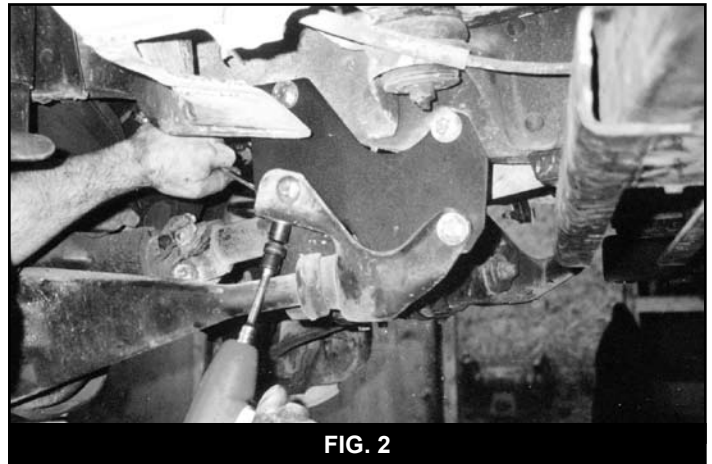

FIG. 2
6. Install BDS radius arm drop brackets. It may be necessary to remove the bracket around the fuel system in order to gain space for access to the bolt holes. Install the BDS drop brackets with 6 - 7/16 x 1-1/4. Re-use two OE bolts per bracket with the OE dual nut bracket. When brackets are in place, torque the fasteners to 60 ft.lbs. (Fig. 2)